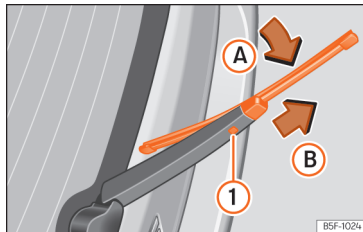

Fig. 151 Changing the rear wiper blade
- Rotate the blade lightly >>> **Fig. 151** (arrow **A**).
- Hold down the release button ① while gently pulling the blade in the direction of arrow **B**.
- Insert a new blade of the **same length and type** in the rear wiper arm in the opposite direction to the arrow **B** until button ① hooks into place.